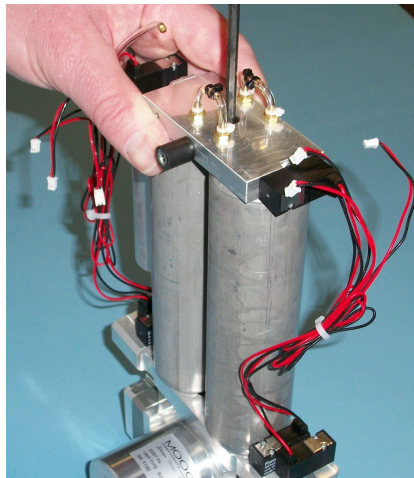

Figure 5.18
2. Stand the PSA assembly upright and loosen the center bolt using a 5/32” Allen wrench. (See Figure 5.18.)